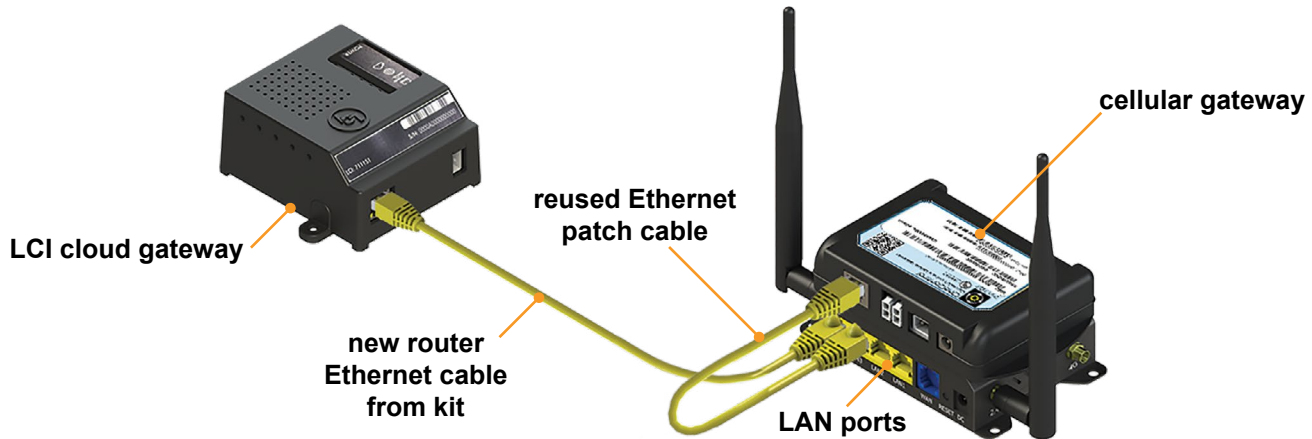

Fig.5
3. Use the long router Ethernet cable (Fig.1E) to connect the Ethernet port on the LCI Cloud Gateway to any LAN (LAN1-LAN4) port on the Cellular Gateway (Fig.5).
4. Reuse the previously removed Ethernet patch cable (step 3 in the Removal of OneControl Wi-Fi Gateway section) to connect the Ethernet port on the Cellular Gateway to any LAN (LAN1-LAN4) port (Fig.5).